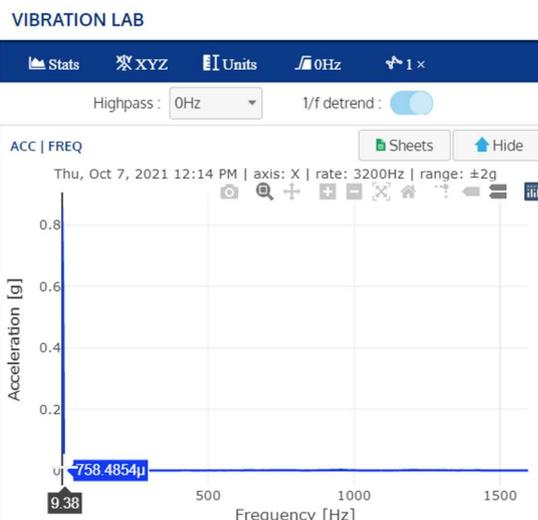
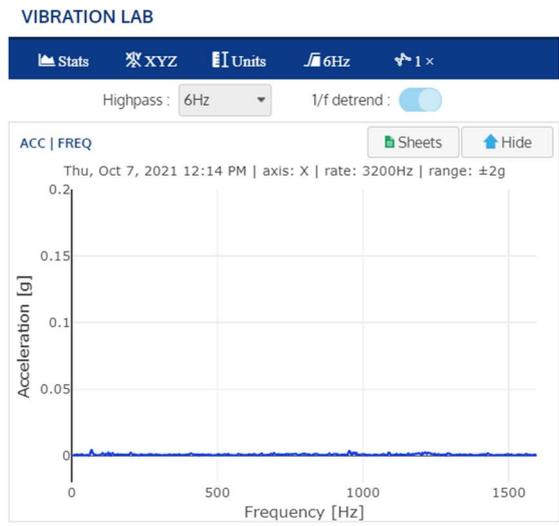
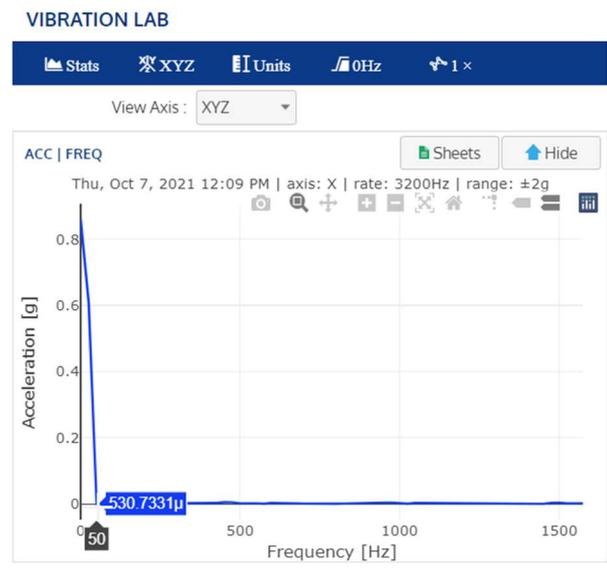

Figure 11: spectrum plot before applying the high pass filtering
Figure 12: spectrum plot after applying the high pass filtering
Figure 13: leakage into the higher frequency bins when using 128 measurement samples
This high pass filter removes the DC offset (gravity) and the low frequency noise from the measured signals (as shown in Figure 11 and Figure 12) to improve the interpretation and analysis of the DFT graphs. The images below (Figure 11 and Figure 13) are taken with none or little vibrations, just gravity and the sensor noise floor are seen.
**Remark:** when taking measurements with very few measurement samples (for example 128 samples), part of the DC offset and low frequency noise (plus the startup transient of the compression algorithm) may leak into the higher frequency bins, due to the coarse resolution of the DFT. This can be seen below in Figure 13, for a measurement of 128 samples. It can be seen here that a HPF value of at least 50Hz is necessary to remove the DC offset and noise.